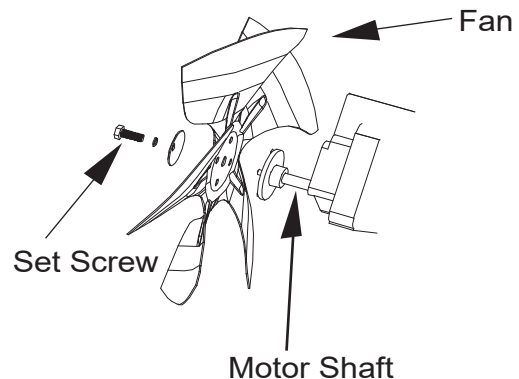

Figure 6 - Fan, Motor Shaft and Set Screw Location
7. Use a hex wrench to loosen the set screw, which holds the fan to motor shaft (see Figure 6). Remove fan, taking care not to damage the fan blade pitch.
4. Replace the fan onto the new motor shaft. Make sure the set screw contacts the flat surface on the motor shaft (see Figure 6, page 8). Tighten set screw firmly (40-50 inch-pounds [46.08-57.60 kilogram-centimeters]).